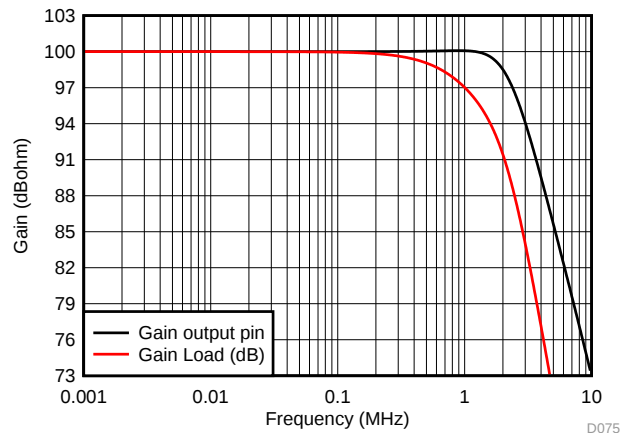

Figure 81. Small-Signal Response for 100-kΩ Transimpedance Gain
- Assume a nominal source capacitance value of 100 pF. This normally comes from the capacitance versus reverse bias plot for the photodiode. No reverse bias is illustrated in Figure 81, but the current source is typically a back biased diode with a negative supply on the anode and the cathode connected to the op amp inverting input. In this polarity, the signal current sinks into the diode and raises the op amp output voltage above ground.
Implementing this design and simulating the performance using the TINA model for the response to the output pin and to the final capacitive load shows the expected results of Figure 81. Here the exact 2.2-MHz flat Butterworth response to the output pin is shown with the final single pole rolloff at 1 MHz at the final 2.2-nF capacitor.